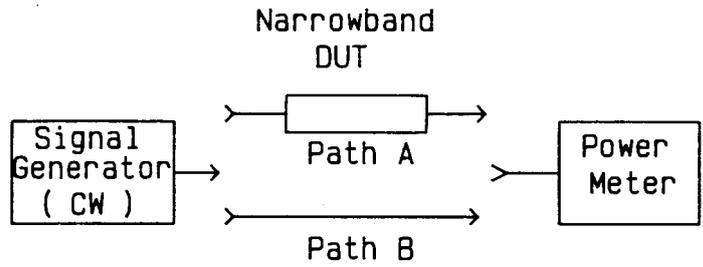

Figure 3-26. INSERTION LOSS MEASUREMENT WITH POWER METER
1. Connect the DUT between the signal generator and the power meter as shown in Path A of Figure 3-26 below.
5. Connect the CW signal generator directly to the power meter as shown in Path B of Figure 3-26 above.